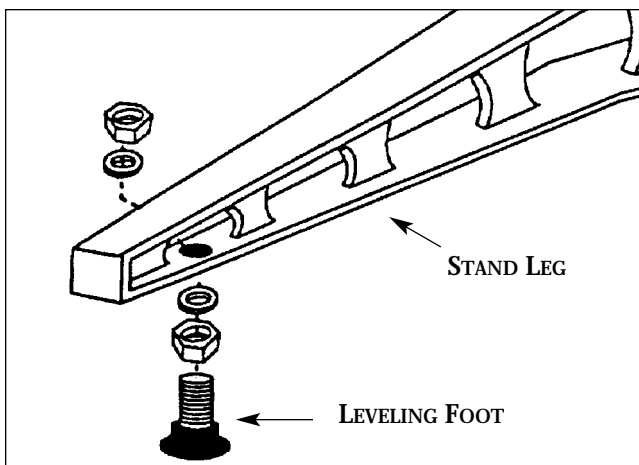

Fig. 2. Leveling feet and mounting hardware.
1. Unbolt the machine legs from the shipping pallet. Install the rubber-based leveling feet on legs (Fig. 2). The glides and mounting hardware are in the STOP envelope packed with your machine.